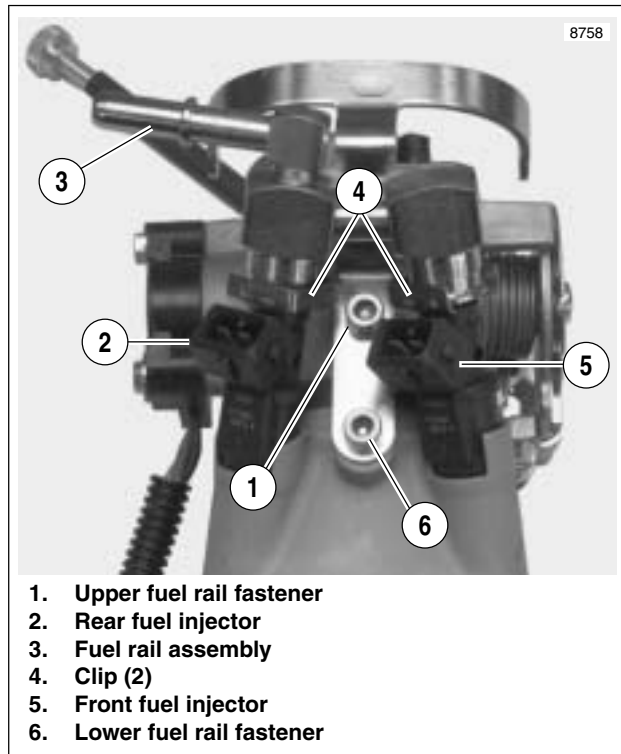

Figure 4-104. Fuel Injectors
1. See Figure 4-104. Remove upper fuel rail fastener (1).
5. See Figure 4-104. Apply a drop of LOCTITE 222 (purple) to threads of fuel rail fastener (1).
- a. See Figure 4-104. Remove both injector clips (4).
6. See Figure 4-104. Install fuel injectors.
- b. Press the fuel rail assembly (3) onto the top of the injectors.
7. Snap the injector clips (4) over the flange on the fuel rail outlet and into the top groove in the injector.